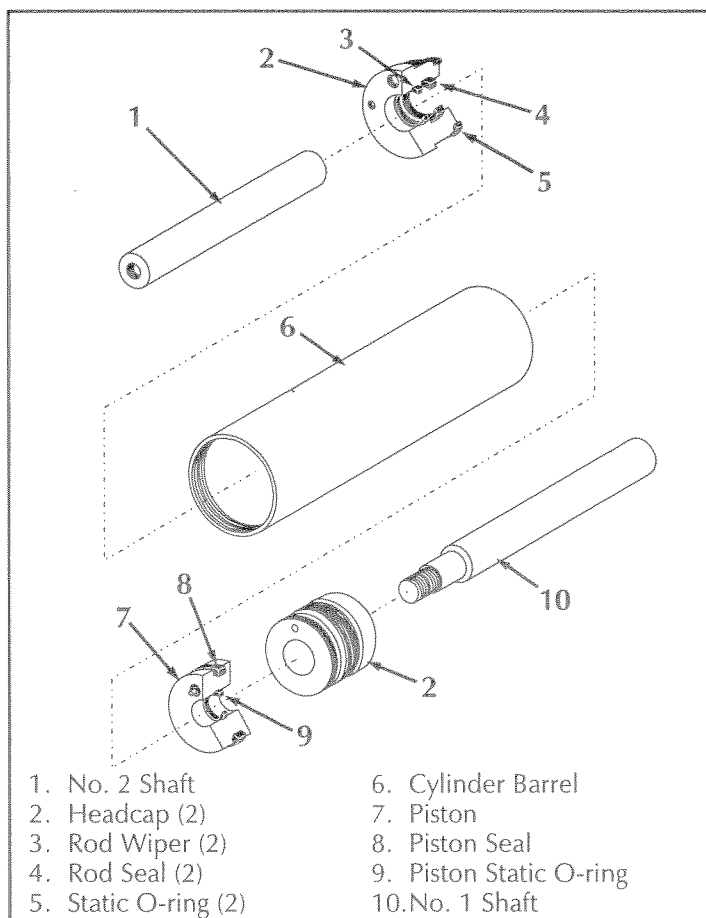

Figure 4-18: Steering Cylinder Assembly
4.11 Steering Cylinder (Figure 4-18)